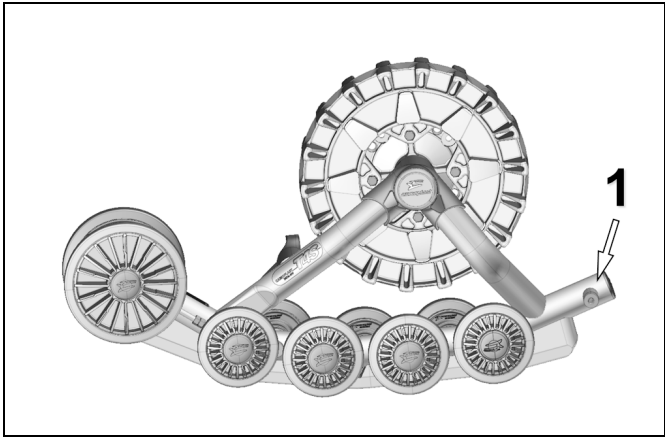

Figure 28
- Remove the two 202 mm wheels (1) opposite to the track tensioner. Refer to Figure 28.